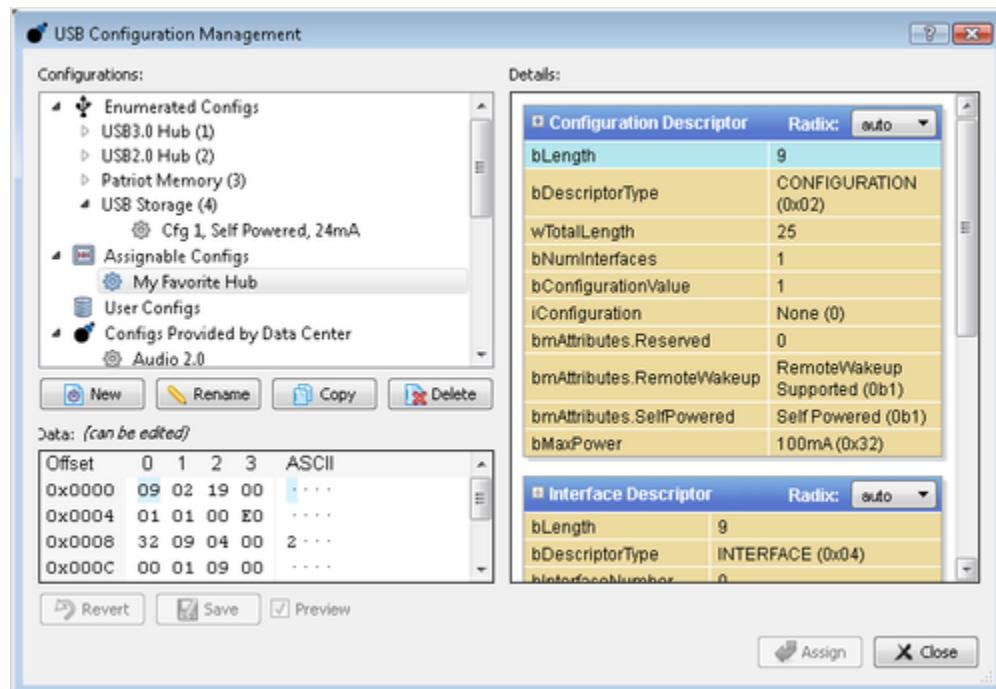

Figure 83 : USB Configuration Management Window
These functions are provided through the **Configuration Management Window** (Figure 83) and the **Bus Pane**'s right-click context menu (Figure 84) through which the window is accessed.
2. Click **Manage Configs** to open the **Configuration Management Window** (Figure 83).
2. Click **Manage Configs**. This will open the **Configuration Management Window** (Figure 83).